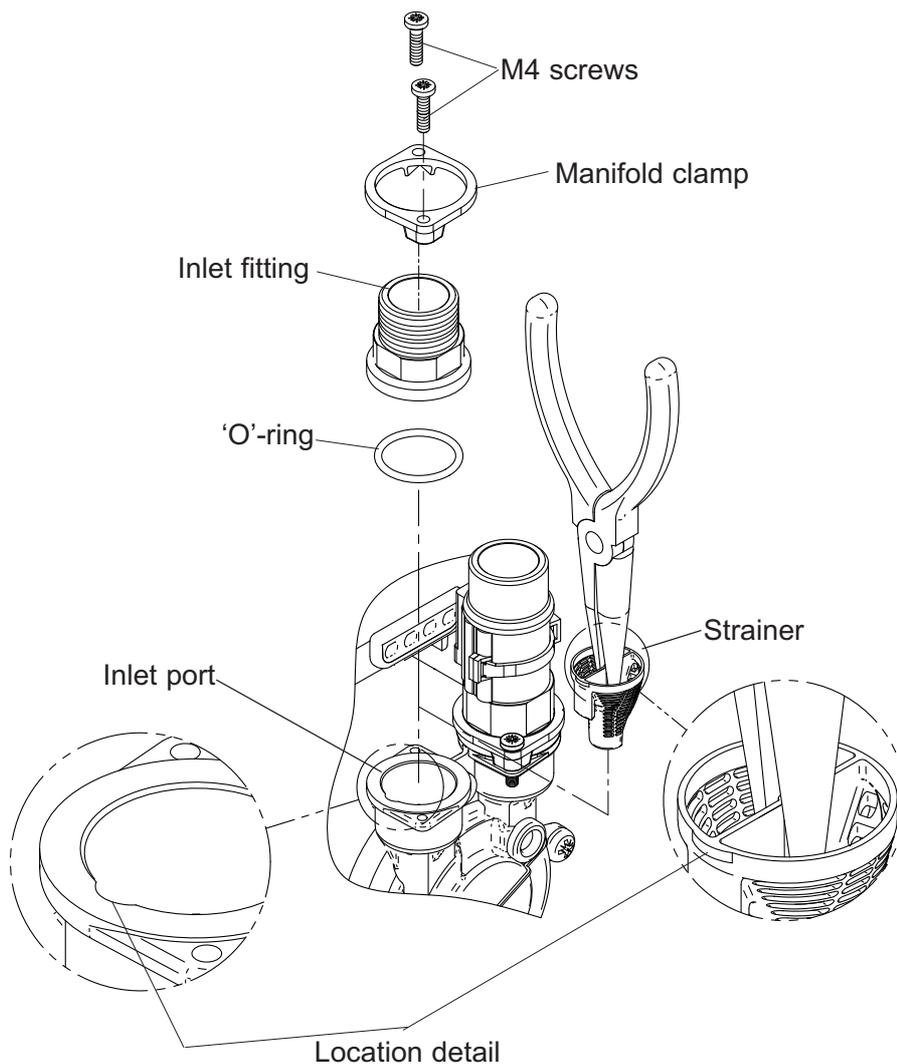

Fig. 18
- d) Remove M4 screws (2 off) from inlet assembly, lift brass inlet fitting (with 'O'-ring) and clamp away from pump casing (Fig. 18).
- e) Remove strainer with long nose pliers noting location lug position upon removal (Fig. 18) and clean thoroughly.
- f) Refit strainer taking care to position lug in body inlet port location slot (Fig. 18) and re-assemble pipework. Tighten M4 clamp screws to 1.5 Nm torque.